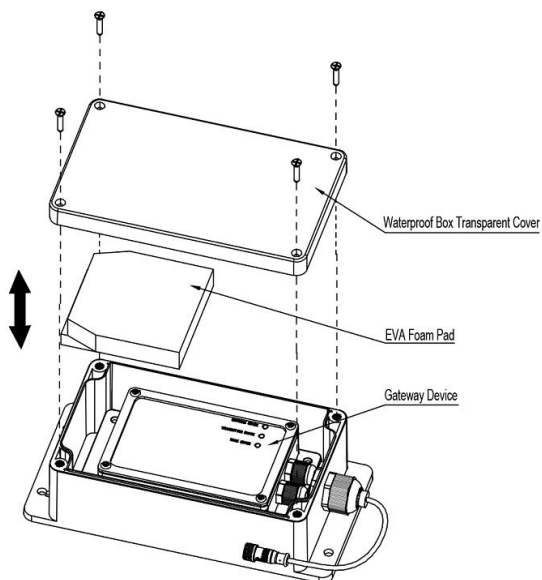

Figure 10
- ② After opening the cover, remove the EVA foam pad(do not discard; keep it for future use)(**Figure 10**).